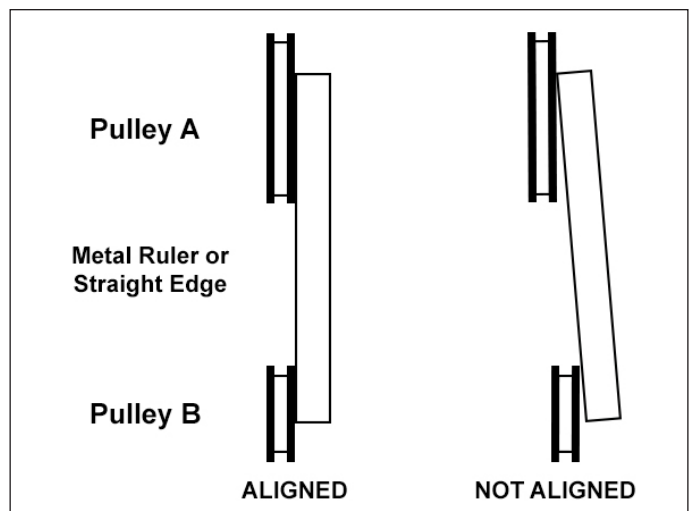

FIG. 27
1. With a metal straight edge, or perfectly flat board, place the straight edge against the faces of the two pulleys that are connected by the same belt. FIG. 27.